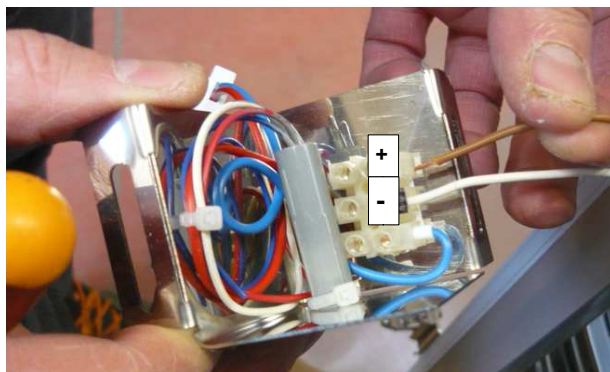

Fig. 7
- 4 – **Collegare il cavo Marrone al morsetto “+” del portalampada a LED (Fig. 7)**
Connect the Brown cable on the “+” terminal of the new light led (Fig. 7)
- 5 – **Collegare il cavo Bianco al morsetto “-” del portalampada a LED (Fig. 7)**
Connect the White cable on the “-” terminal of the new light led (Fig. 7)